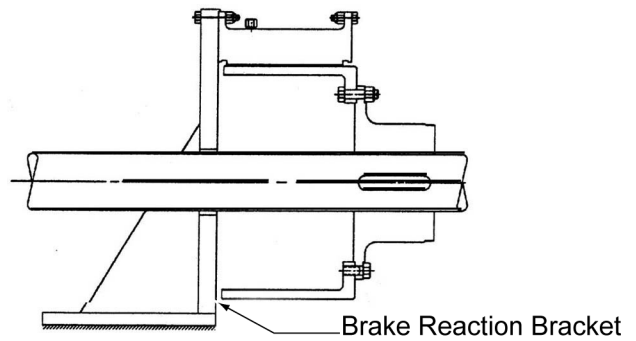

Figure 5
2.1.3 **Figure 5** illustrates a typical VC brake application. The drum and drum hub are attached to the shaft which is to be stopped. The element is attached to a rigid reaction bracket.